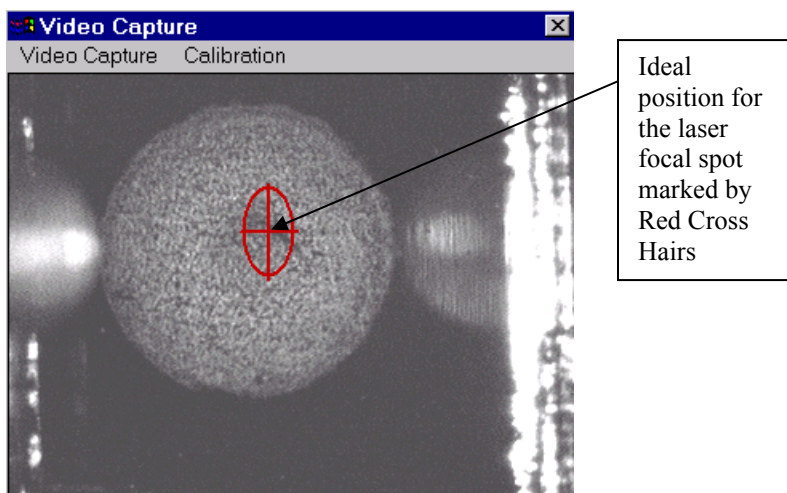

Fig. 8-4 Image of matrix crystals
Step 2. Switch ON the laser, spiral/raster motion OFF. Set the maximum laser power. Now you should see the matrix crystal's evaporation at the place where the laser beam is focused (Fig. 8-4)
By comparing the location of the ablation hole with the ideal position shown by the Red Cross-Hairs, we can see that the laser focus is close to its ideal position, but slightly above and to the left. The deviation of the focal point shown in Figures 8-4 and 8-5 is acceptable, especially with *PDF* activated, but the source sensitivity can possibly be improved by fine tuning.